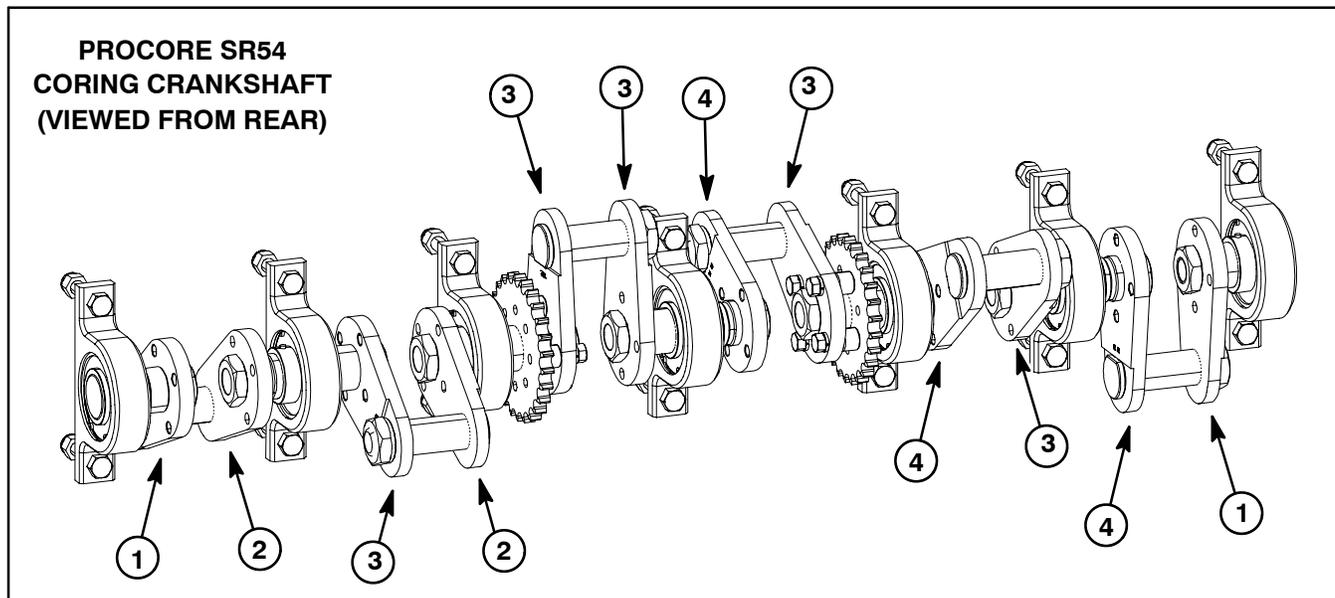

Figure 9
The ProCore SR54 coring crankshaft uses four (4) different crank arms. For identification purposes, the crank arms and crankshaft timing are shown in Figure 9. Refer to your Parts Catalog to identify part numbers for crankshaft components.